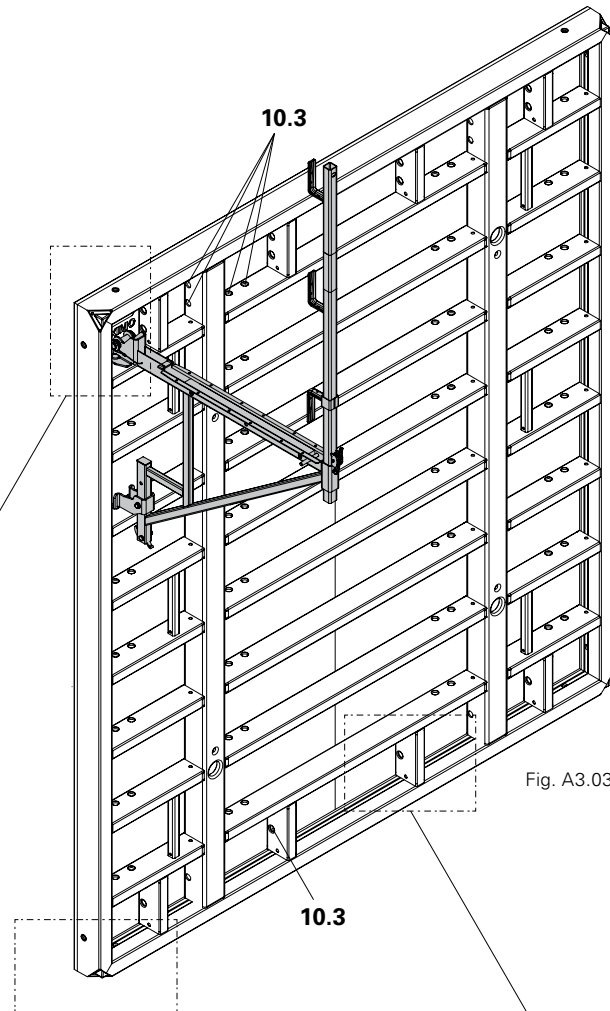

Fig. A3.03
- Scaffold Brackets, see Section A7. (Fig. A3.03)